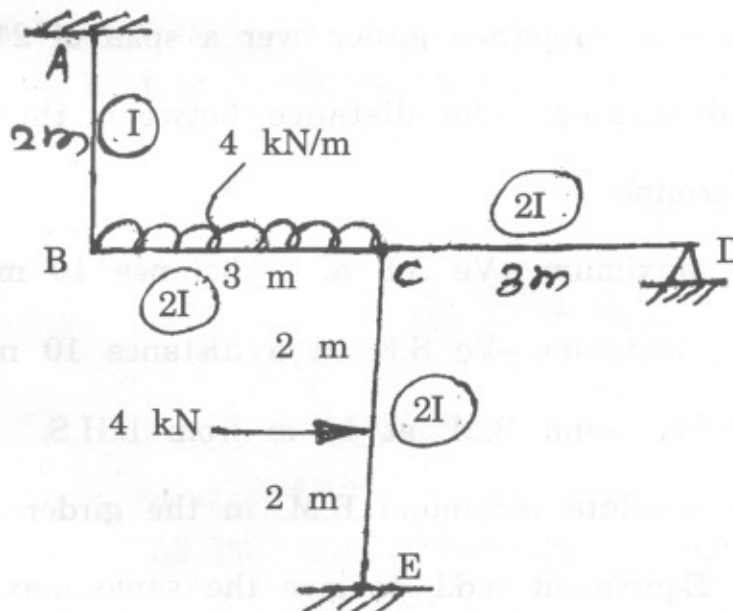

Fig. 13
8. Analyse the frame shown in Fig. 13 by using Moment Distribution Method. Draw bending moment diagram and the deflected shape of the Frame. [16]